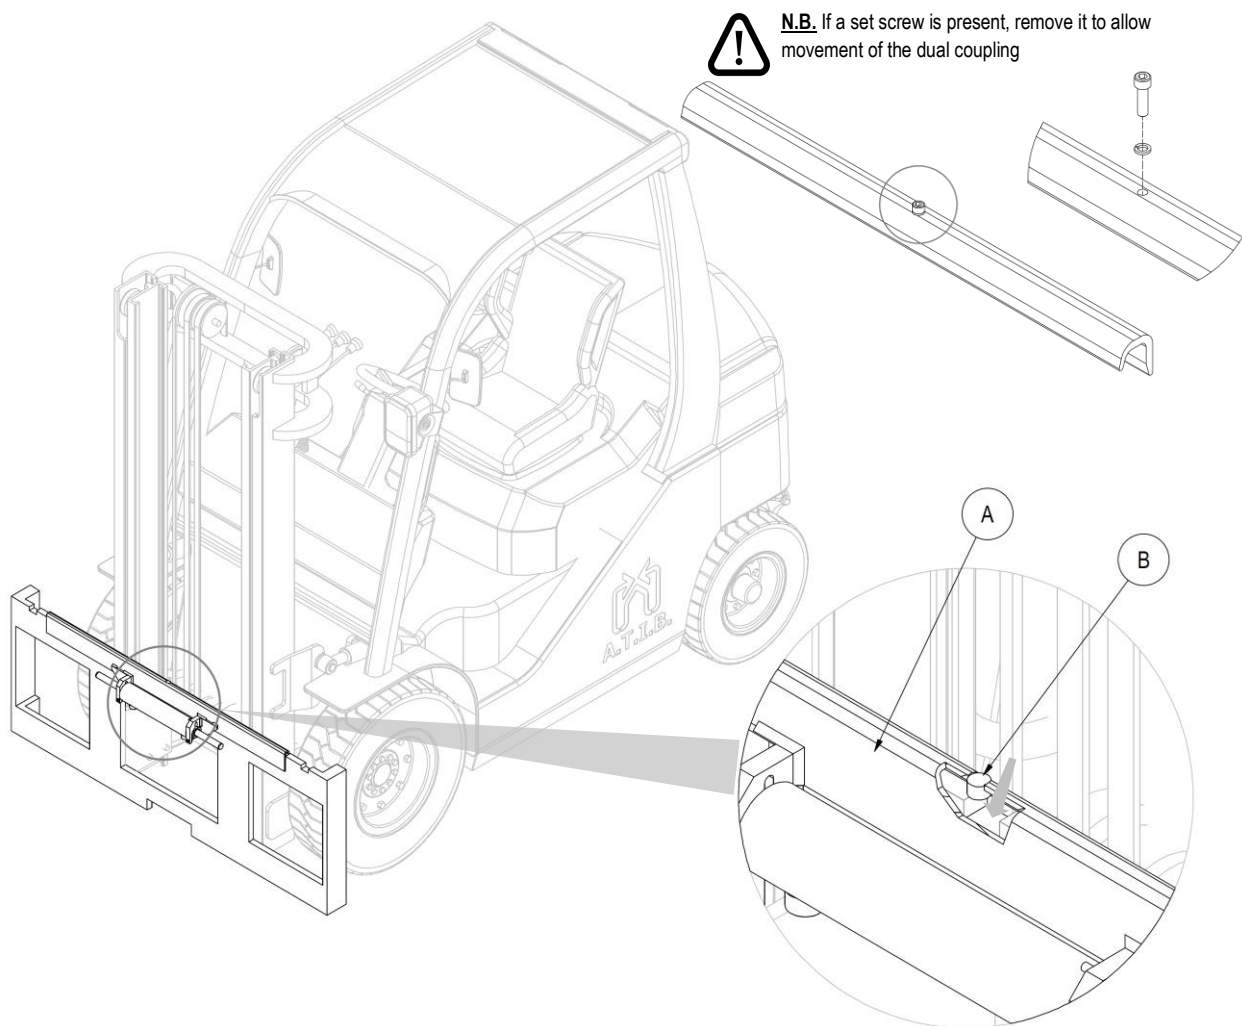

Figure 2
4. Obtain dual coupling **A** (with the associated cylinder) and position it on the upper profile of the fork carriage, taking care to engage the centring pin **B** in its central notch (see *Figure 2*).